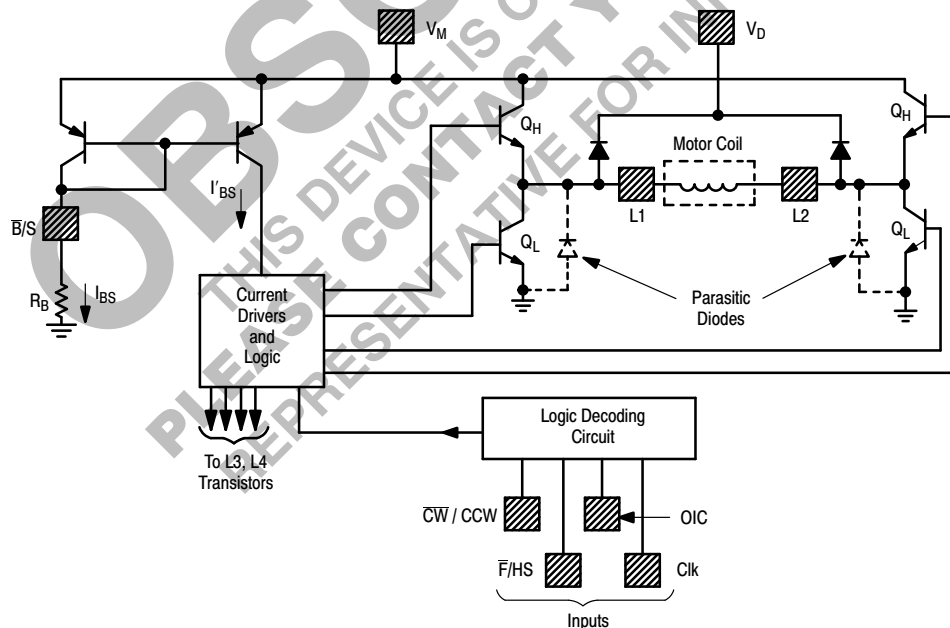
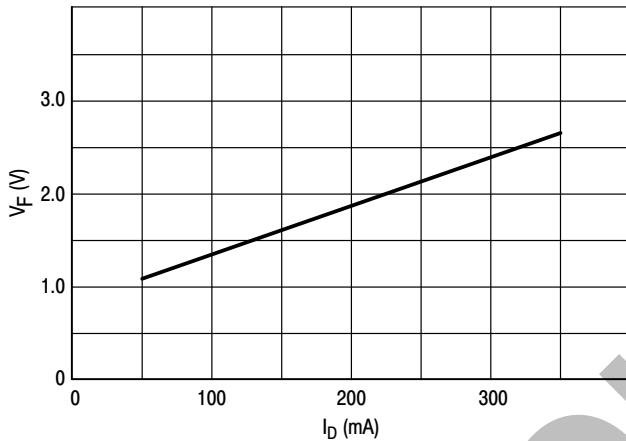
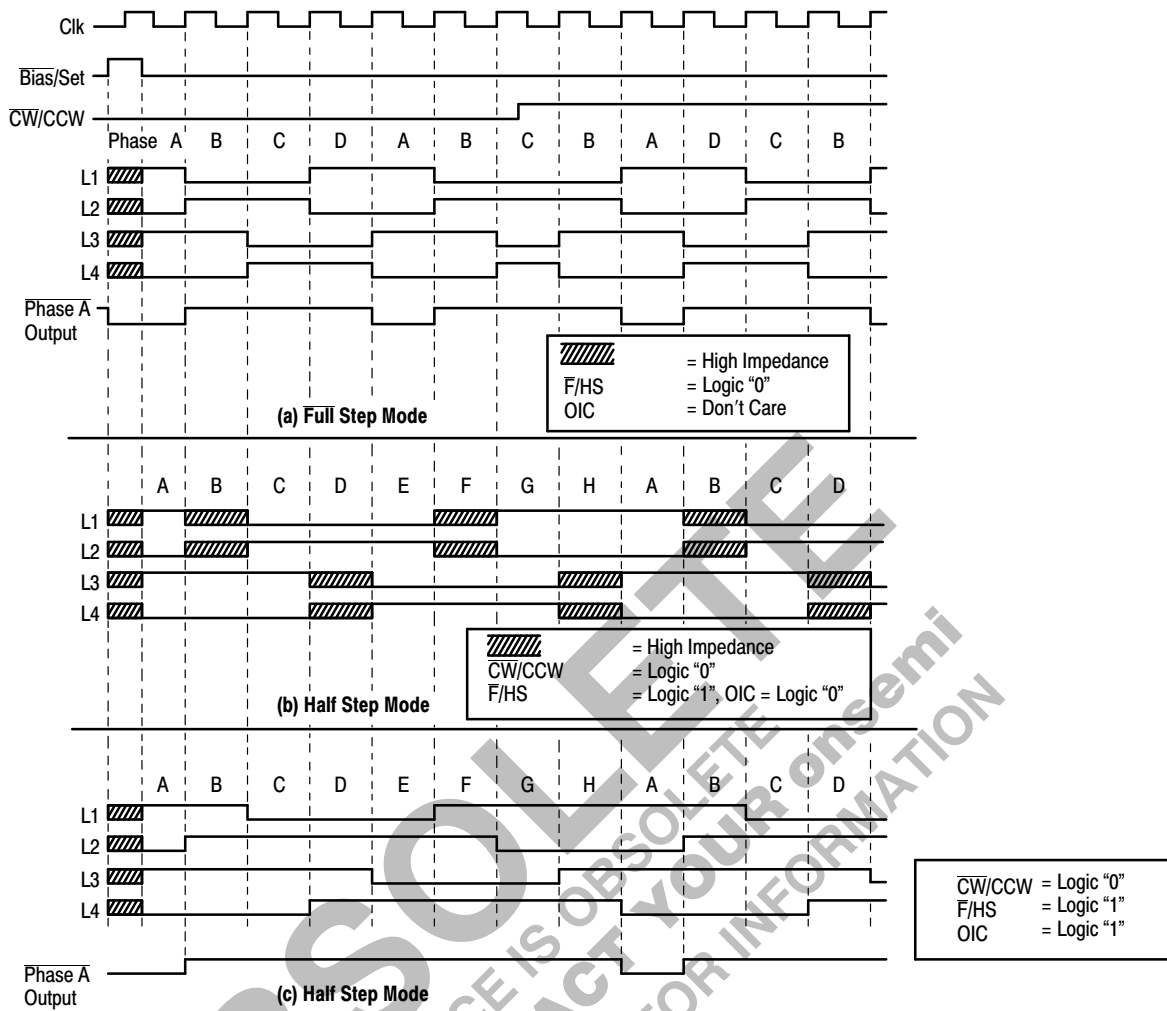
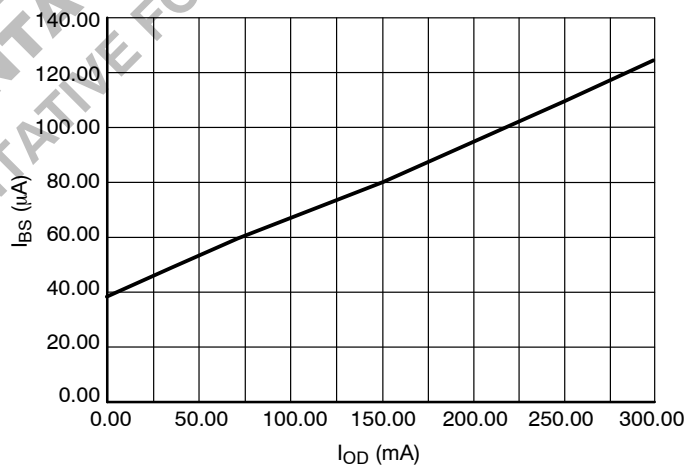

Figure 5. Output Stages
Figure 6. Clamp Diode Characteristics
Figure 7. Output Sequence
Figure 11. Bias/Set Current - Output Drive Current
The outputs (L1–L4) are high current outputs (see Figure 5), which when connected to a two-phase motor, provide two full-bridge configurations (L3 and L4 are not shown in Figure 5). The polarities applied to the motor coils depend on which transistor (Q_H or Q_L) of each output is on, which in turn depends on the inputs and the decoding circuitry.
are to be in a high impedance state, both transistors (Q_H and Q_L of Figure 5) of each output are off.
This pin allows for provision of a current path for the motor coil current during switching, in order to suppress back-EMF voltage spikes. V_D is normally connected to V_M (Pin 16) through a diode (zener or regular), a resistor, or directly. The peak instantaneous voltage at the outputs must not exceed V_M by more than 6.0 V. The voltage drop across the internal clamping diodes must be included in this portion of the design (see Figure 6). Note the parasitic diodes (Figure 5) across each Q_L of each output provide for a complete circuit path for the switched current.
When this input is at a Logic "0" (< 0.8 V), the outputs change a full step with each clock cycle, with the sequence direction depending on the $\overline{CW}/CCW$ input. There are four steps (Phase A, B, C, D) for each complete cycle of the sequencing logic. Current flows through both motor coils during each step, as shown in Figure 7.
When taken to a Logic "1" (>2.0 V), the outputs change a half step with each clock cycle, with the sequence direction depending on the $\overline{CW}/CCW$ input. Eight steps (Phase A to H) result for each complete cycle of the sequencing logic. Phase A, C, E and G correspond (in polarity) to Phase A, B, C, and D, respectively, of the full step sequence. Phase B, D, F and H provide current to one motor coil, while de-energizing the other coil. The condition of the outputs of the de-energized coil depends on the OIC input, see Figure 7 timing diagram.
The output impedance control input determines the output impedance to the de-energized coil when operating in the half-step mode. When the outputs are in Phase B, D, F or H (Figure 7) and this input is at a Logic "0" (<0.8 V), the two outputs to the de-energized coil are in a high impedance condition – Q_L and Q_H of both outputs (Figure 5) are off. When this input is at a Logic "1" (>2.0 V), a low impedance output is provided to the de-energized coil as both outputs have Q_H on (Q_L off). To complete the low impedance path requires connecting V_D to V_M as described elsewhere in this data sheet.
a) The maximum output sink current is determined by the base drive current supplied to the lower transistors (Q_Ls of Figure 5) of each output, which in turn, is a function of I_{BS}. The appropriate value of I_{BS} can be approximated using Figure 11.
For example, assume an application where $V_M = 12$ V, the motor requires 200 mA/coil, operating at room temperature with no heatsink on the IC. From Figure 11, I_{BS} is determined to be 95 μ A.